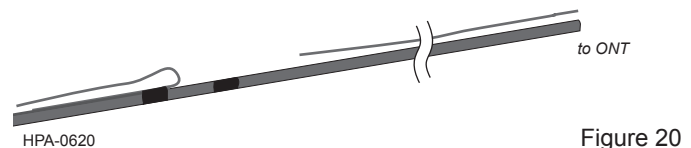

Figure 20
- e. Remove the outer tape wrap at the cut made in Step d and use the cable knife to separate the remaining toning wire to the bare end of the cable (Figure 20).